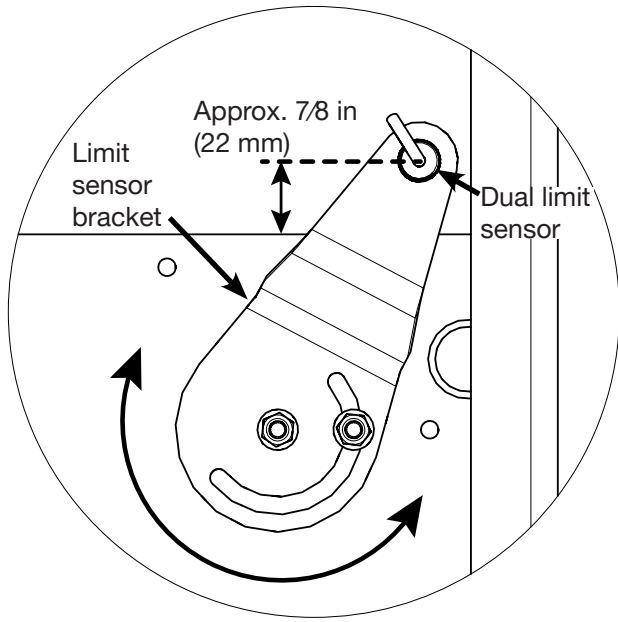

Figure 10. Set Limit Sensor Height
2. Set the height of the dual limit sensor 7/8 in (22 mm) above the bottom of the rail opening (Figure 10).